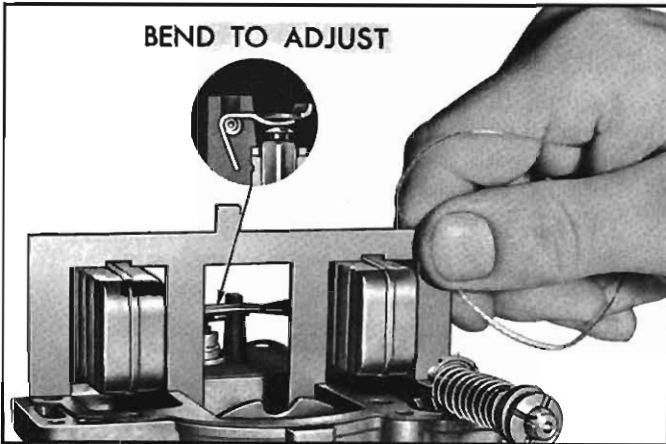

Fig. 10—Checking Float Level
2. Invert the cover on a flat surface. Place float level tool in chain gauge set J-21614 over float as shown in Figure 10.